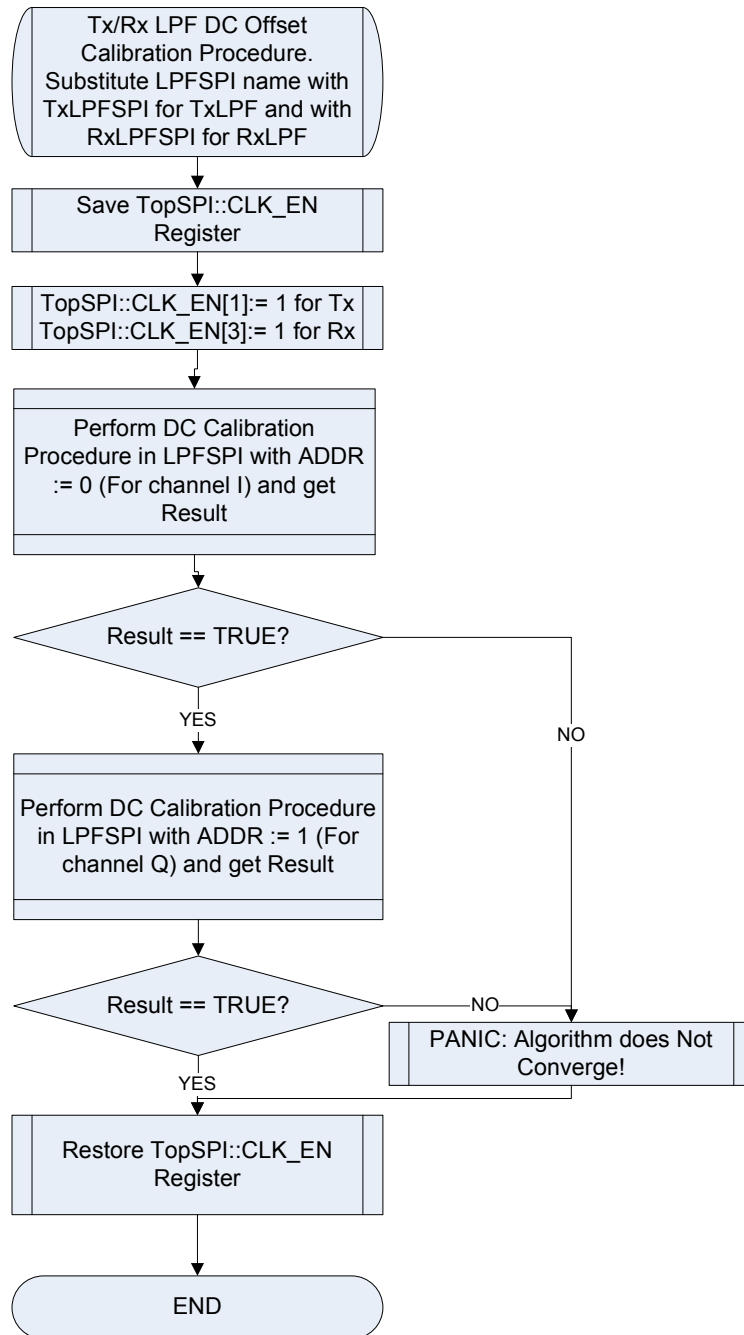

Figure 4.3
3. DC offset cancellation of the TXLPF, Figure 4.3.
4. DC offset cancellation of the RXLPF, Figure 4.3.